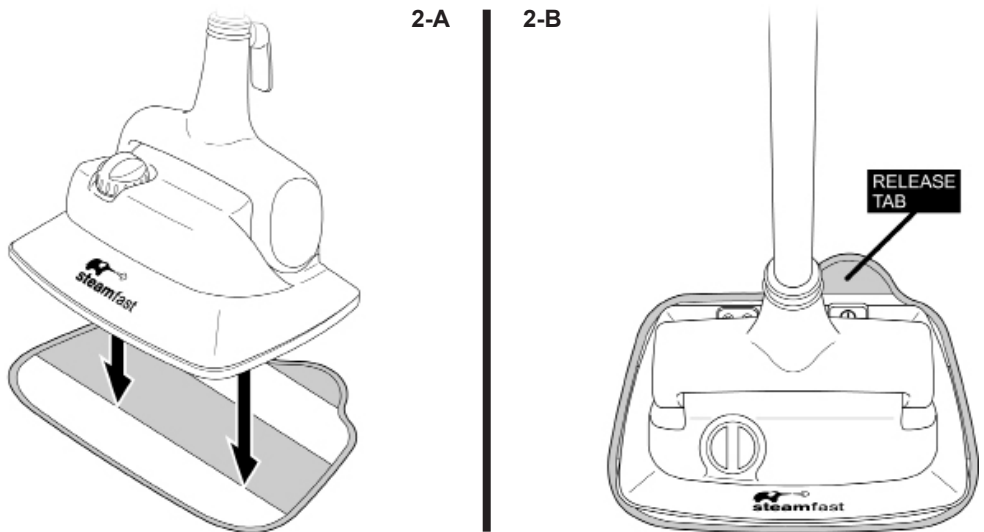

FIGURE 2
2. Align Mop Head above Microfiber Pad. Make sure Mop Head is oriented with pad as shown, and centered as best as possible (FIGURE 2-A).
3. Press Mop Head firmly down onto Microfiber Pad. Fastener strips will adhere to Pad Grips on underside of Mop Head. Pad should now be attached and ready for use (FIGURE 2-B).